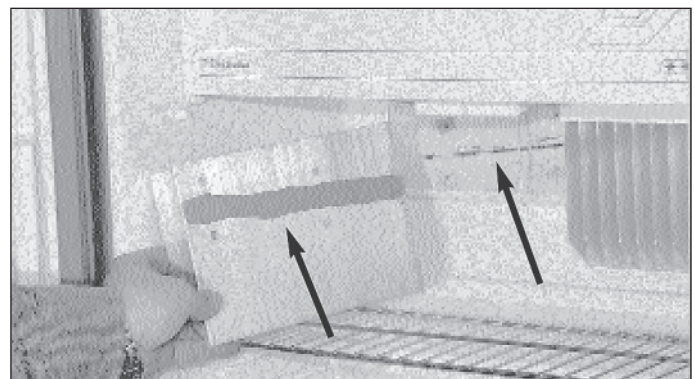

Figure 5-3.
3. Is the evaporator pipe partially covered with foam? (See Figure 5-3)